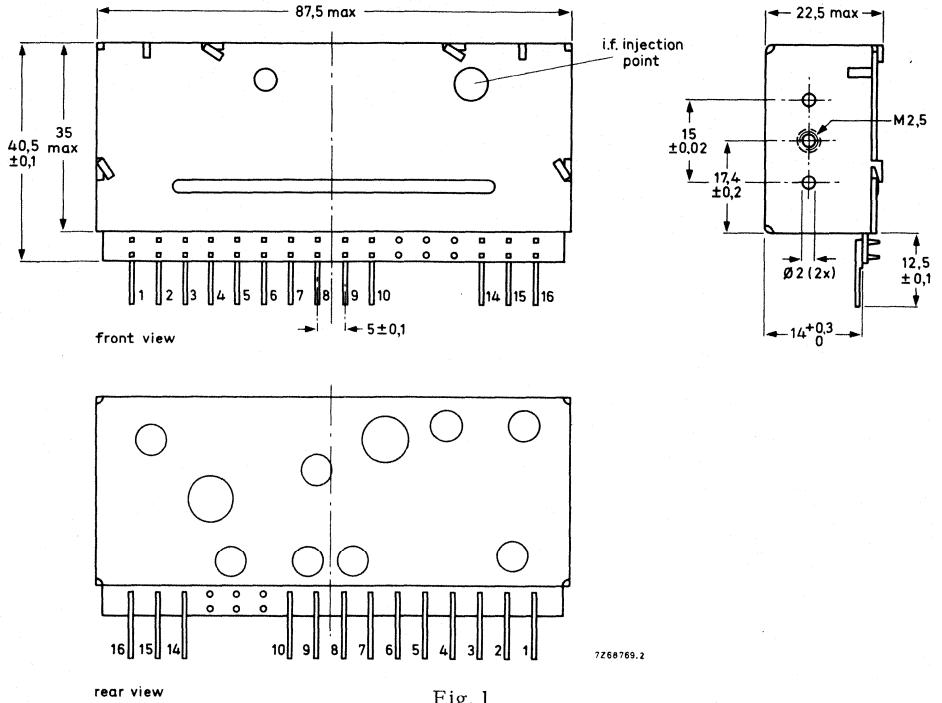

Fig. 1
2. Apply a generator signal (≤ 100 mV, $10,7$ MHz ± 2 kHz) to the i. f. injection point (Fig. 1) via the circuit shown in Fig. 3.